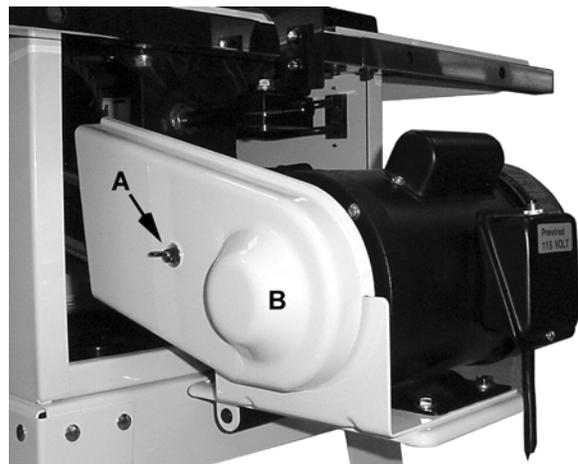

Figure 25
4. Fasten the belt cover (B, Fig. 25) to the belt guard bracket with an M8 flat washer and M8 wing nut (B, Fig. 25).